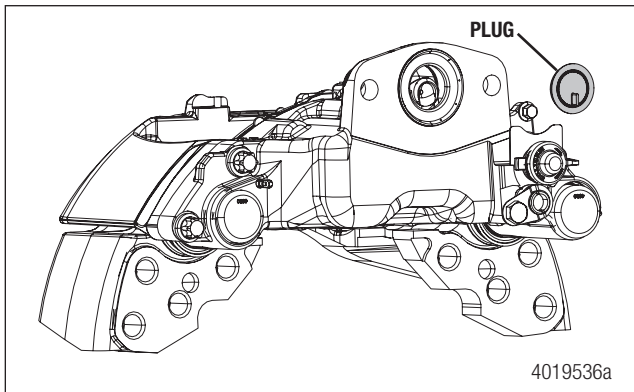
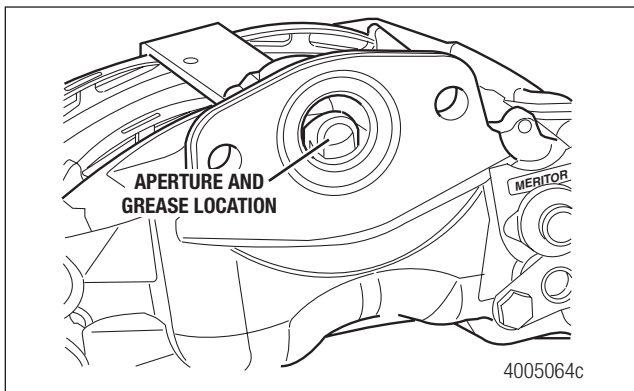

Figure 11
Figure 12
- Remove the chamber mounting hole plastic shipping film and pull the tab on the rubber plug to remove it. It will take some force to peel the perforated transit plug from the caliper chamber seal. There should be a small amount of grease in the aperture when the plug is removed from the caliper. Figure 11 and Figure 12.